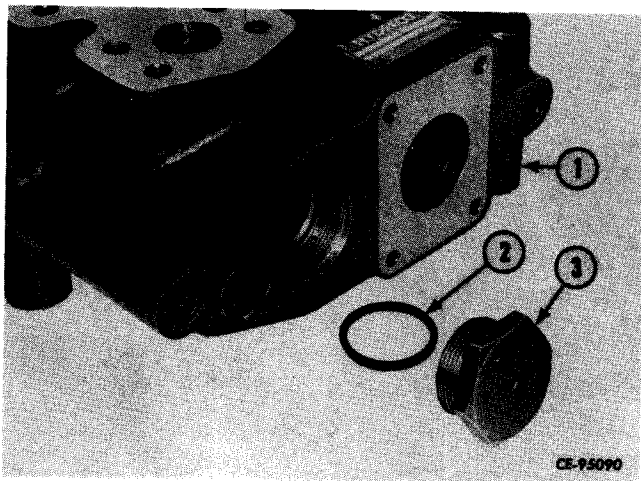

Figure 11-45
Remove plug (3, Fig. 11-45) and "O" ring (2) from valve (1).
Lubricate new "O" ring (2, Fig. 11-45) and install in groove of plug (3). Install plug in valve (1).